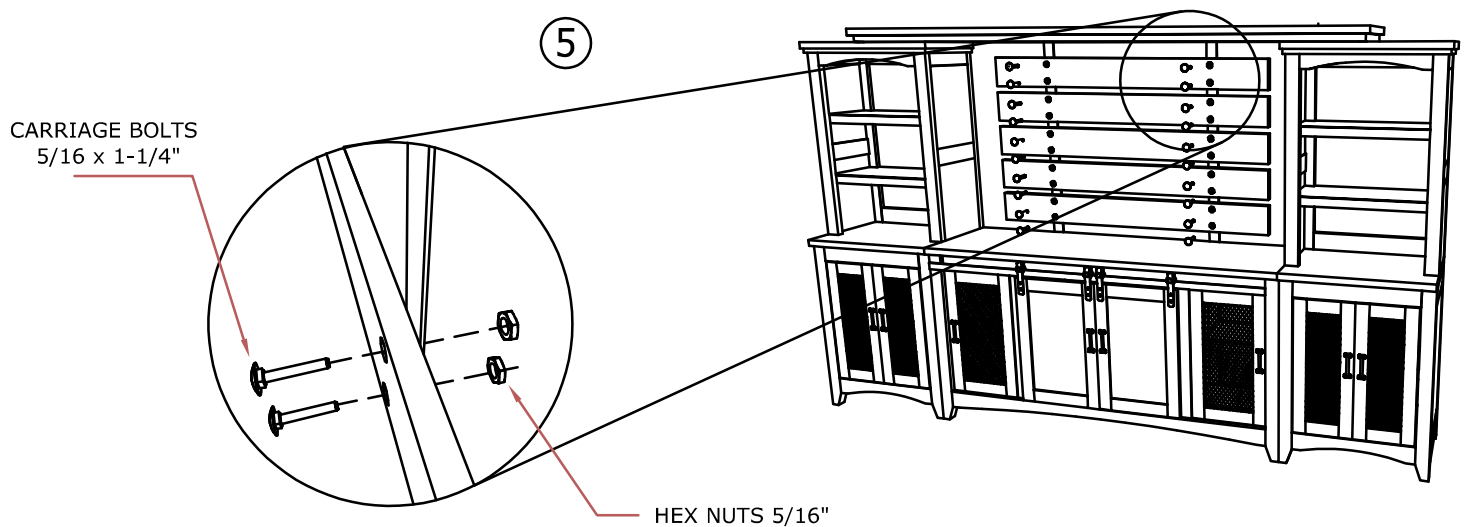

FIG.3
5.- PIN UP THE BACKREST SLATS ASK SOME HELP OF SOMEONE TO ALIGN THE HOLES OF THE SLATS WITH THE IRON SUPORT AND SCREW AS SHOW IN FIG. 3.